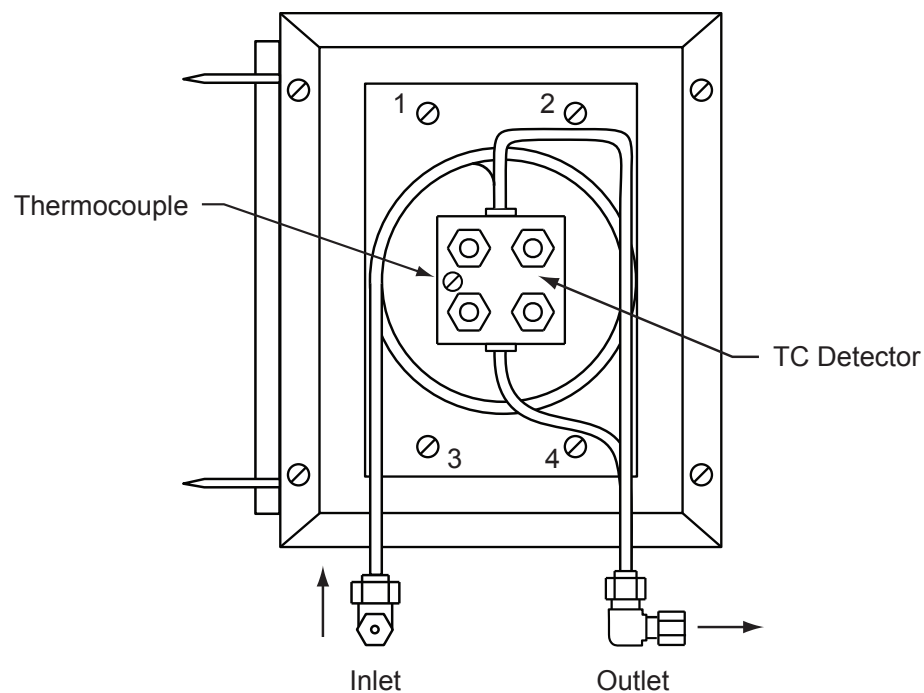

Figure 8-1: TC Detector in Cell Housing
- d. Completely unscrew the four (4) screws located at the base of the detector block (Figure 8-1, Screws 1, 2, 3, & 4).